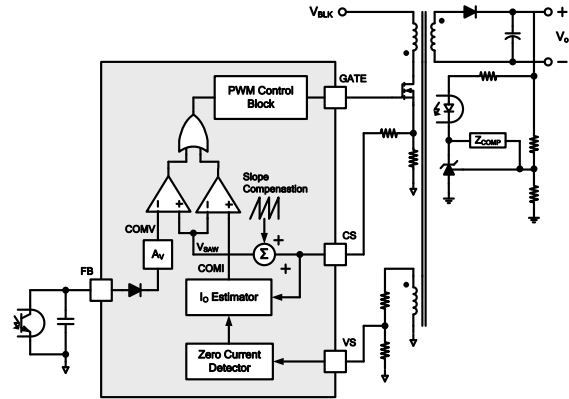

Figure 19. Simplified CV / CC PWM Control Circuit
Figure 19 shows a simplified CV / CC PWM control circuit of the FAN501A. The Constant Voltage (CV) regulation is implemented in the same manner as the conventional isolated power supply, where the output voltage is sensed using a voltage divider and compared with the internal reference of the shunt regulator to generate a compensation signal. The compensation signal is transferred to the primary side through an opto-coupler and scaled down by attenuator AV to generate a COMV signal. This COMV signal is applied to the PWM comparator to determine the duty cycle.